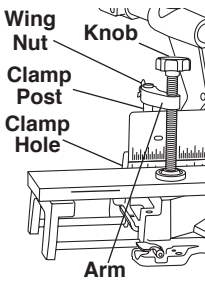

Figure 21. Workpiece Clamp
**Clamps** - The clamp easily secures a workpiece in either of two (2) clamp holes behind the fence (Figure 21 & 21a).